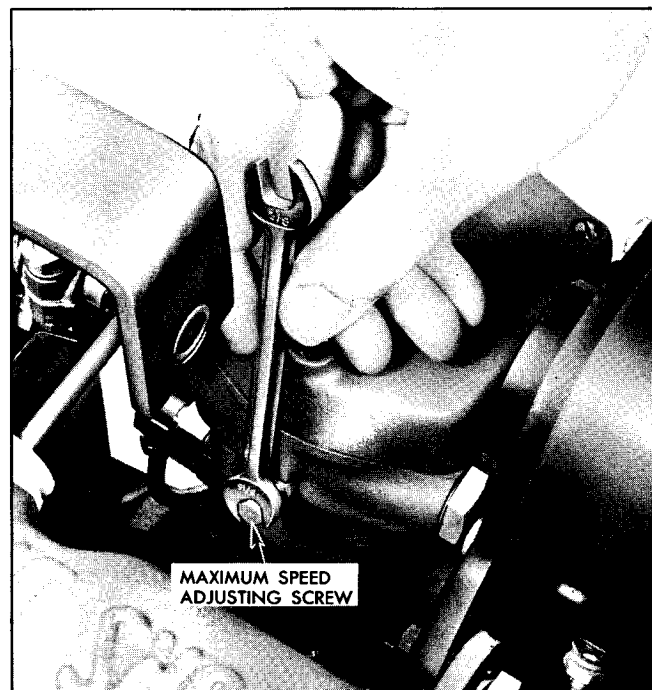

Fig. 5 - Adjusting Maximum Engine Speed
3. Loosen lock nut and back off maximum speed adjusting screw, shown in Fig. 5, approximately 5/8".
2. Turn maximum speed adjusting screw, Fig. 5, in until engine is operating approximately 8% above the rated full-load speed.